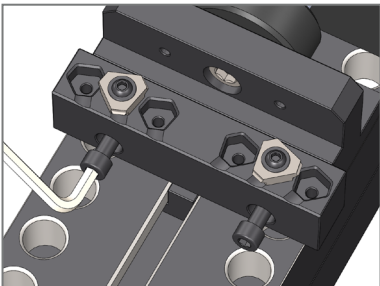

Fig. 4
1. Mount the Makro-4 Grip jaws. Position and screw on (Fig. 4). Keep an eye on the position of the plug.